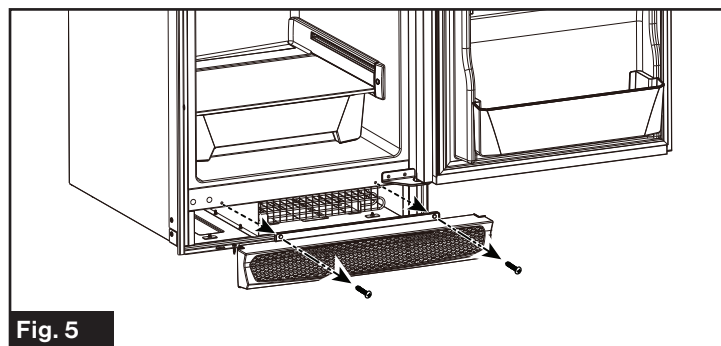

Fig. 5
2. Unscrew the air vent fixing screws and remove the air vent. (Fig. 5)